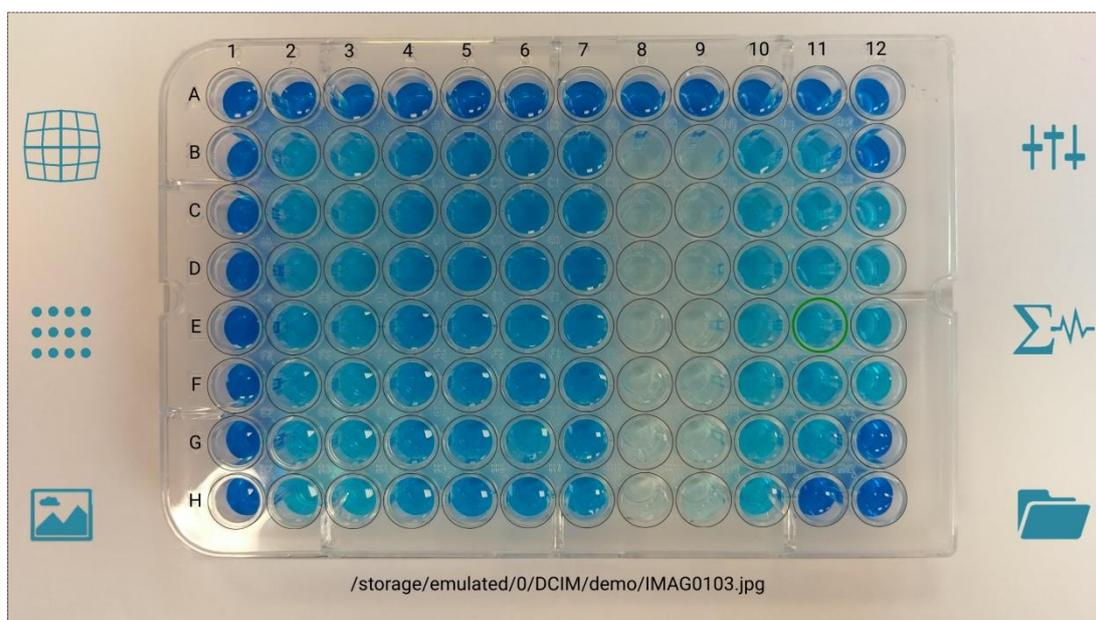
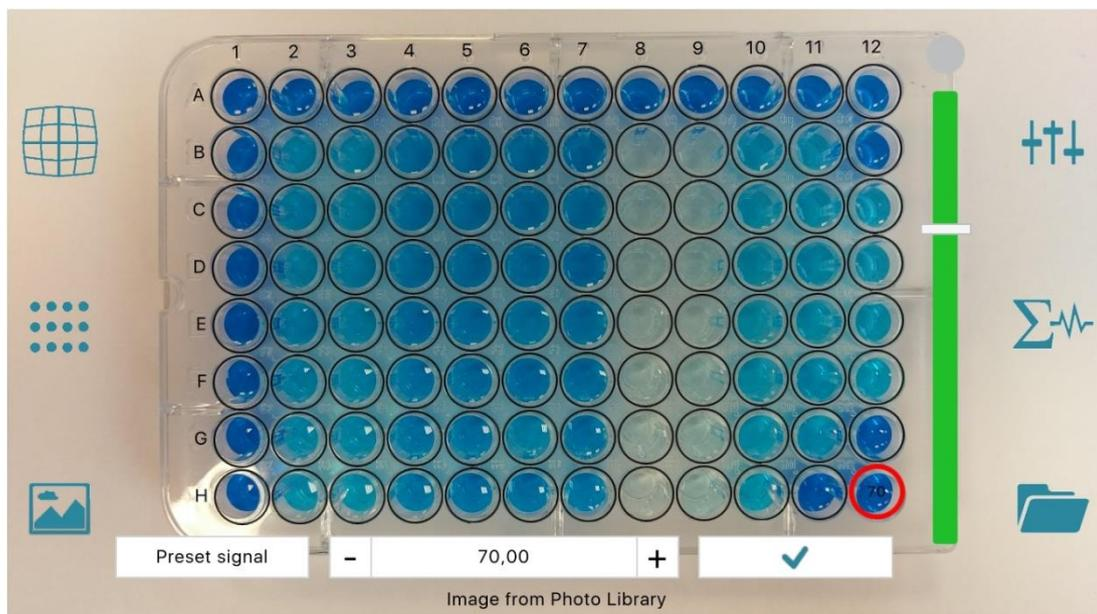
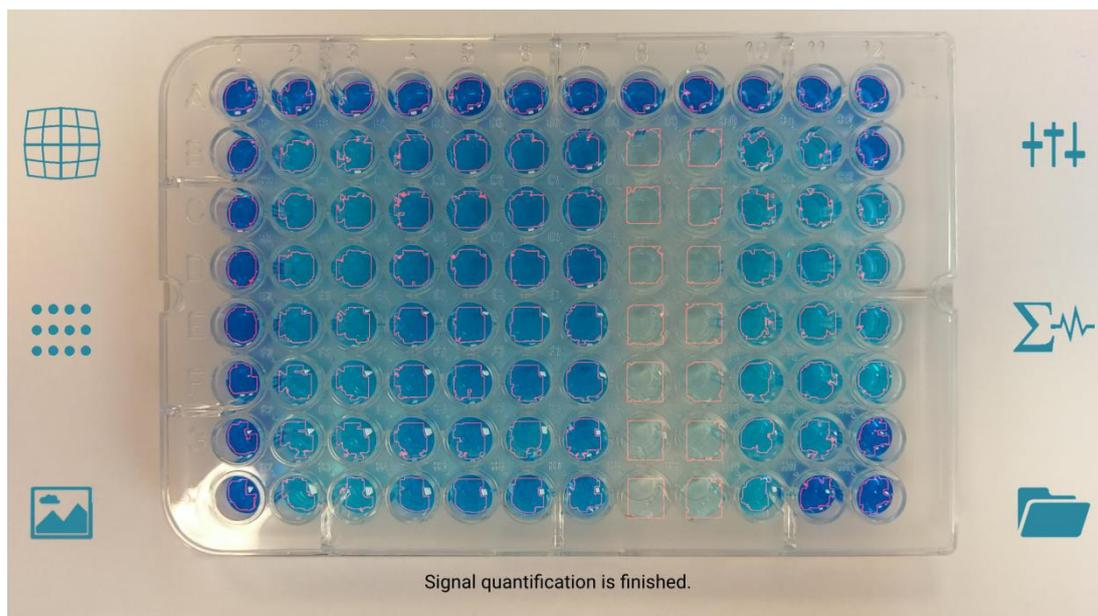

Figure 3: Grid Alignment in Image Analysis.
Figure 5: Setting Specific Value to Wells.
Figure 7: Detected Signal with Boundary in Red.
Image analysis (Figure 3, Figure 5, and Figure 7) detects the color signal in each well and reports the measured color intensity. In order to support different color scales and measures, the app reports the *normalized color intensity*, whose value is between 0 and 100.
Setting	Show/hide the slider for assigning specific intensity value (Figure 5) to a well.
- **Select** the well; this highlights its border in **red** (e.g. Figure 5, well H12).
When finished, the detected signal is highlighted by showing its boundary in red (Figure 7). You can scale the image up and down, and/or move it, for better viewing of a certain well.